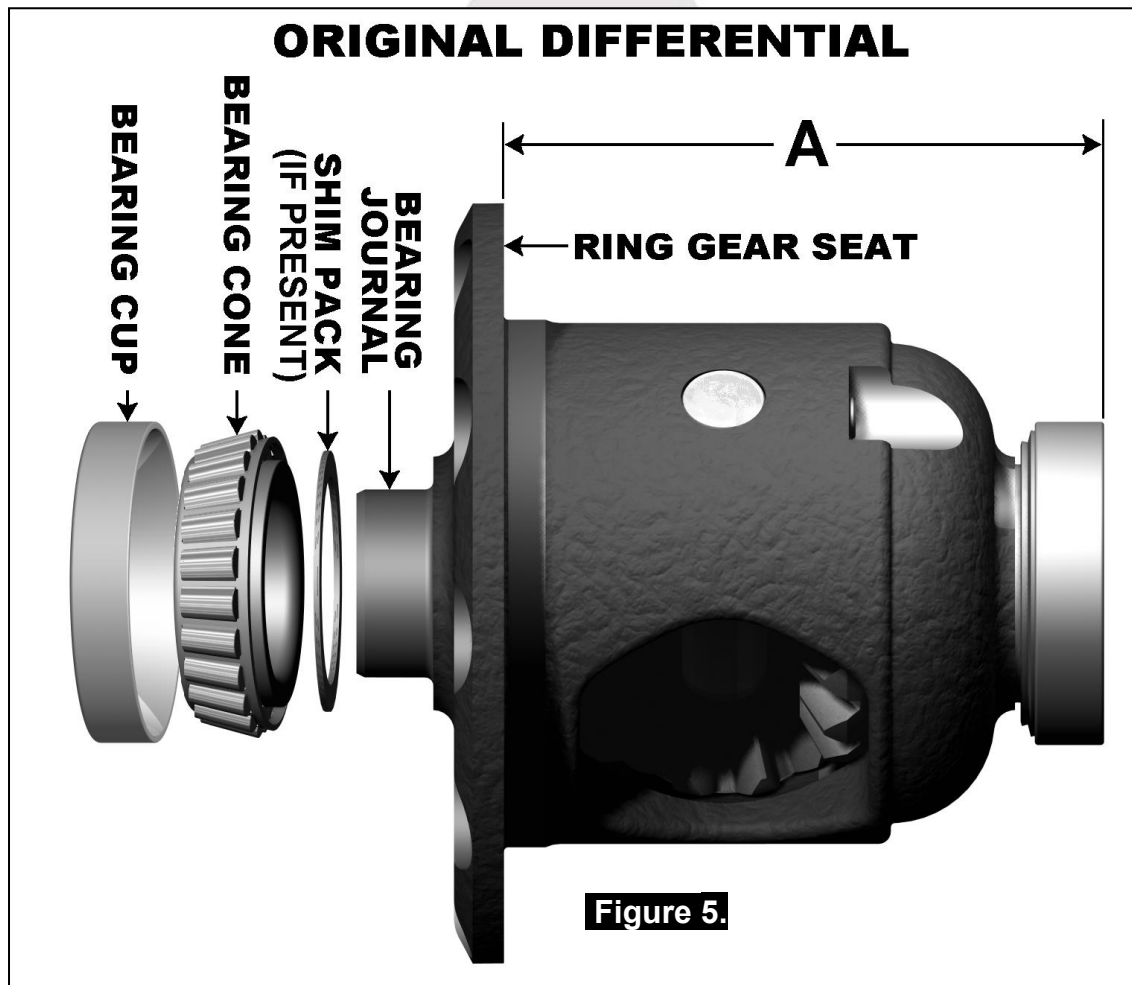

Figure 5.
- Using a caliper or similarly accurate measurement method (i.e., able to take accurate measurements within 0.04mm [0.0015"]), measure the distance from the shoulder of the outer face of the bearing cup to the ring gear mounting face (shown as 'A' in Figure 5.) and record this measurement as 'A'.